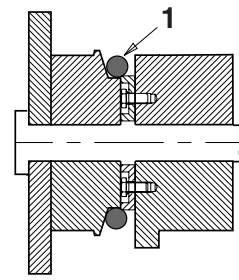

Figure 7
5. Roll the new O-ring (1, Figure 7) into the O-ring groove.